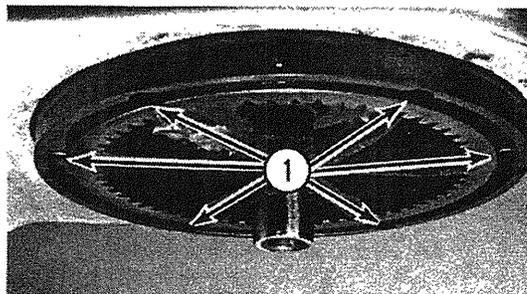

Fig. 2-10
- B. To remove the internal gear, take out the six screws that hold it to the gear case (1, Fig. 2-10). Remove the gear.